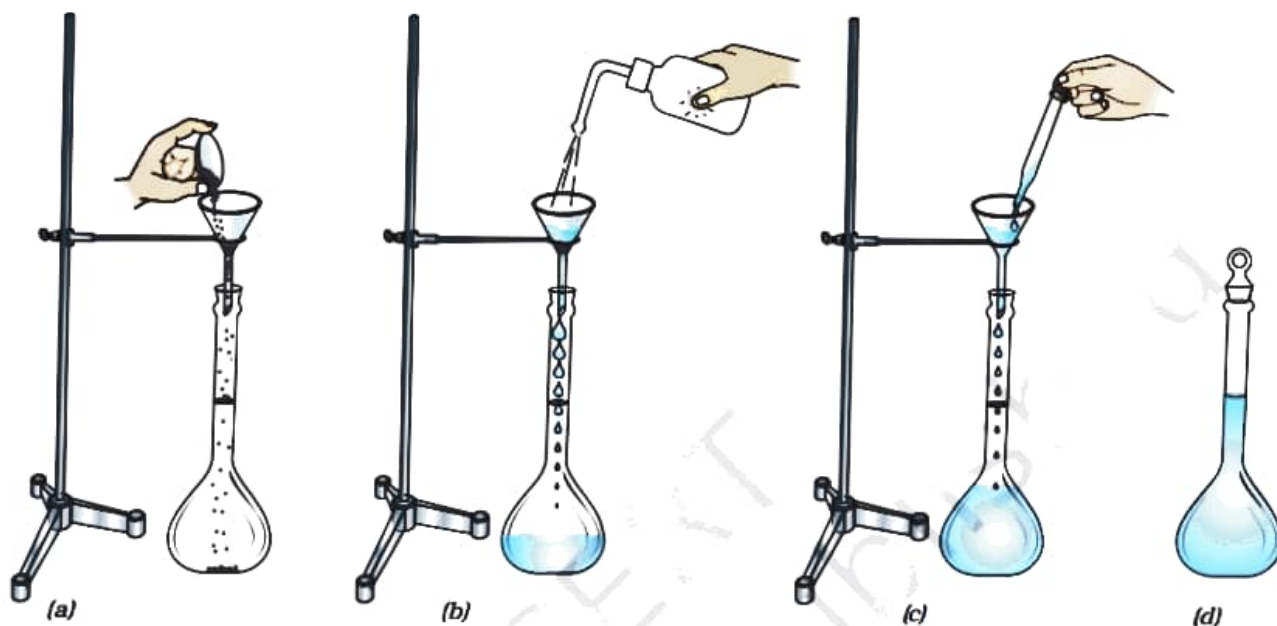

Fig. 2.27 : Making standard a solution
- (iii) Transfer oxalic acid carefully from the watch glass/weighing tube into a clean and dry measuring flask using a funnel. Weigh the empty watch glass again (Weight 3) and find out the mass of oxalic acid transferred to the measuring flask by subtracting this mass (Weight 3) from the combined mass of watch glass and oxalic acid (Weight 2). Calculate the exact molarity of solution from this mass. Wash funnel several times with distilled water by using a wash bottle to transfer the sticking particles if any into the measuring flask. While washing the funnel, add water in small amounts so that its volume in the flask does not exceed $\frac{1}{10}$ of the volume of the measuring flask as shown in Fig. 2.27 a, b.
- (iv) Swirl the measuring flask till solid oxalic acid is completely dissolved. Add more distilled water with shaking. Make up the volume with distilled water to the etched mark by adding last few mL dropwise. Stopper the flask and shake it thoroughly to make the solution uniform throughout (Fig. 2.27 c, d). Label it as 0.1 M oxalic acid solution.